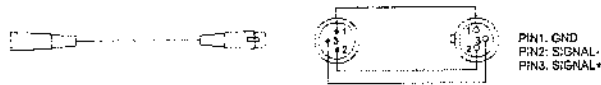

Fig.21
5.Signal wire and connector link(See Fig.21):